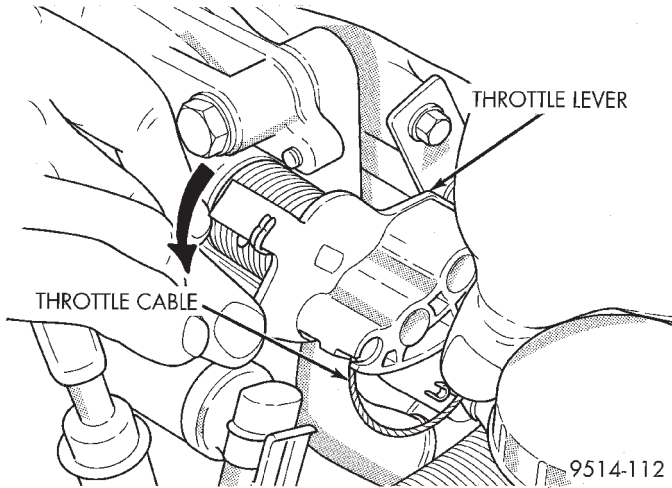

Fig. 48 Throttle Cable Attachment to Throttle Body
(1) Working from the engine compartment, remove throttle cable from the throttle body lever (Fig. 48).